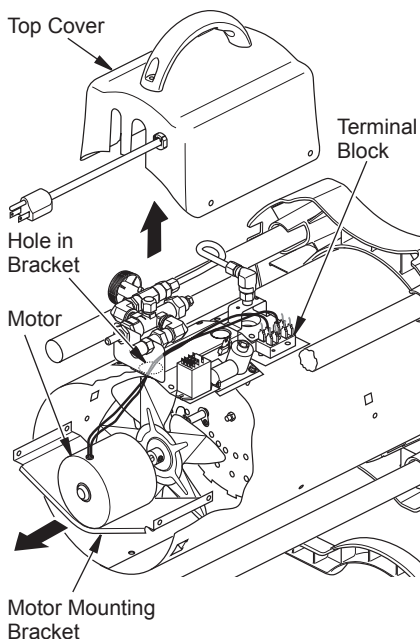

Figure 7 - Removing Fan and Motor
19. Route motor wires through hole in top of shell (see Figure 7, page 8).
20. Reconnect motor wires to the same posts on terminal block as removed in step 3, page 8 (see Figure 7, page 8).